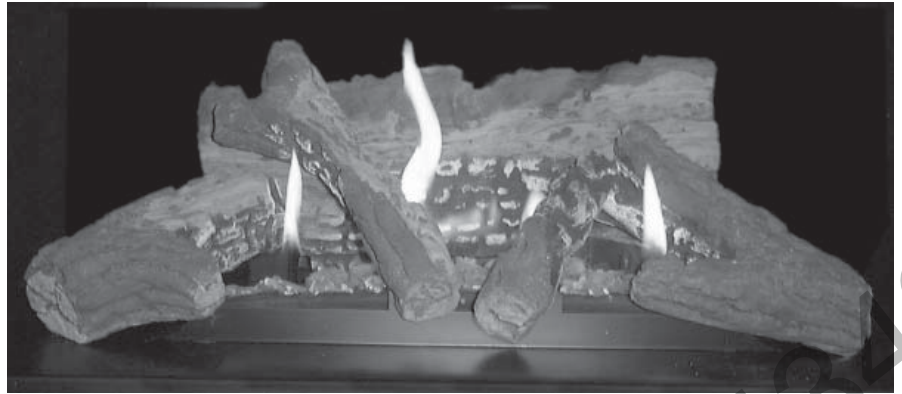

Figure 10 - Burner Flame Appearance Model LMDV-3328 & LMDV-3530
3. Allow the burner to operate for at least 15 minutes while observing the flame continuously to ensure that the proper flame appearance has been achieved (see **Figures 10 or 11**). If the following conditions are present, adjust accordingly.